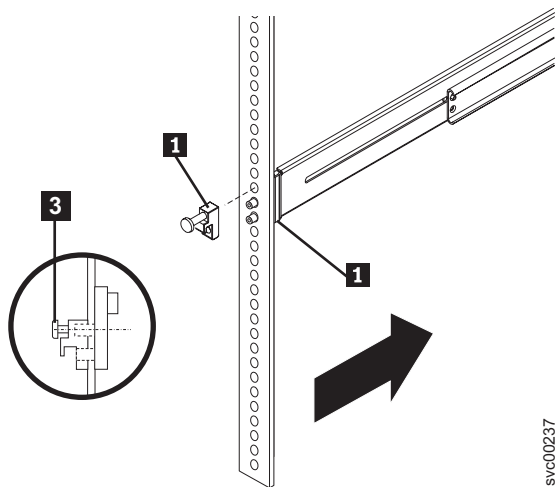

Figure 45. Removing the latch strike from the front of the slide rail
1. Loosen and remove the captive screw **3** and latch strike **1** from the left rear mounting flange, as shown in Figure 45 on page 65, to release the slide rail **2**. Loosen and remove the captive screw from the right rear mounting flange and release the other slide rail in the same way.